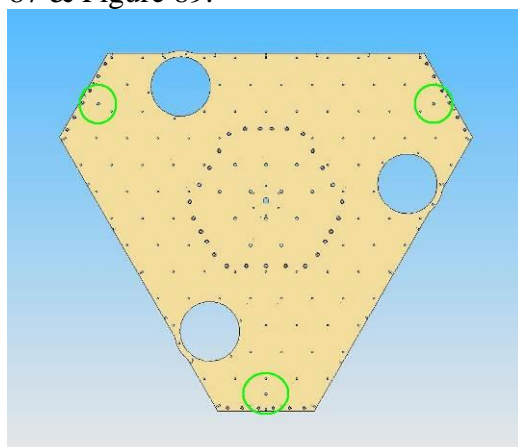

Figure 89: Lifting hook locations on keel plate.
- Lift D0901519 Keel Plate Up-Facing using (3) 5/8-11 Tapped Lifting holes shown on Figure 87 & Figure 89.